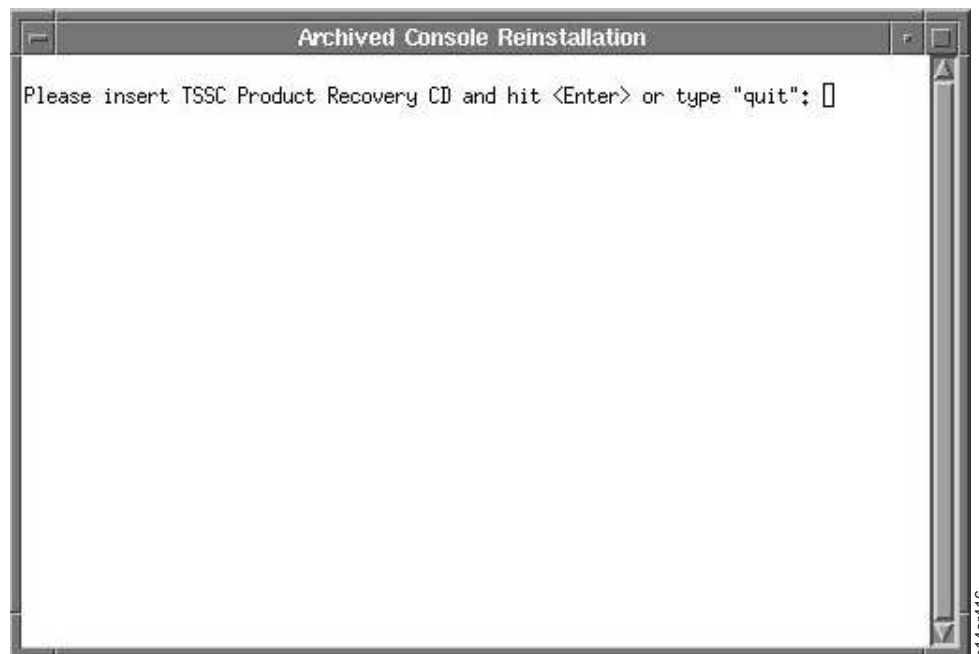

Figure 228. Prompt for TSSC Product Recovery CD.
4. From the Main Menu, select **System Console Actions > Disk Rebuild and Restore Config**. You will see Figure 228.